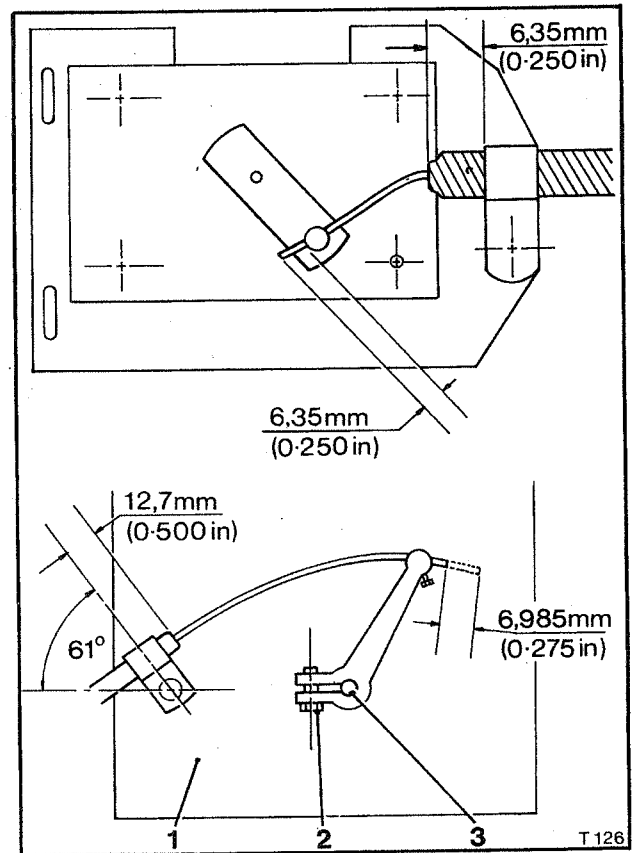

Fig. C25 Setting the water tap actuating cable
Coolant tap actuating cable - To remove (see Fig. C25)
3. Fit the cable assembly to the coolant tap as shown in fig. C25.